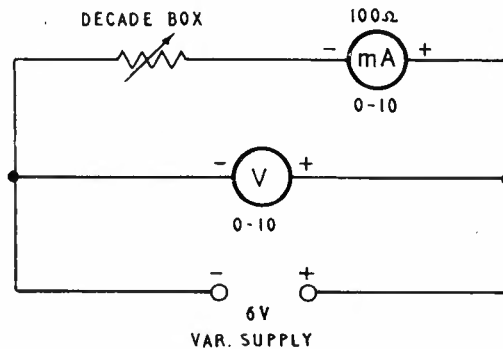

FIG. 1.
STEP 3. Connect the circuit as shown in Fig. 1.